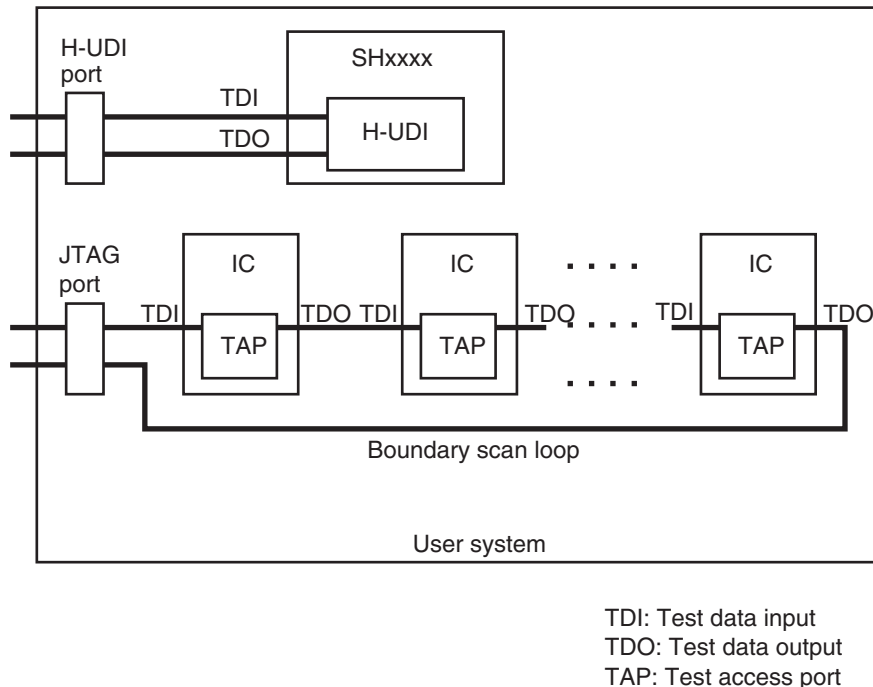

Figure 3.11 User System Example
4. When developing user systems, do not connect the TDI and TDO signals of the device to the boundary scan loop, or separate them by using a switch (figure 3.11).